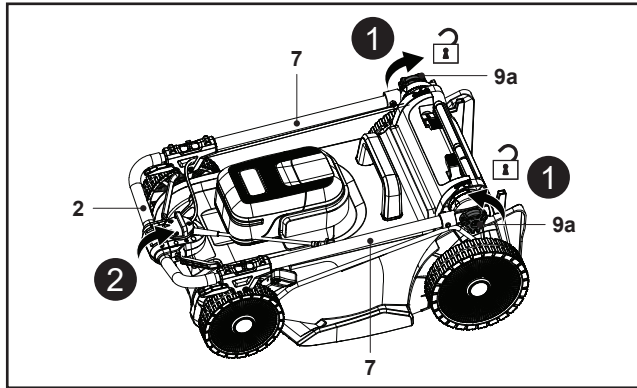

Fig. 1
2. Loosen the two locking knobs (9a) counterclockwise on the lower handle bars (7), but do not remove them (Fig.1, step 1).
3. Hold the grip handle (2) with one hand and unfold the handle assembly (5, 7) (Fig. 1, step 2).